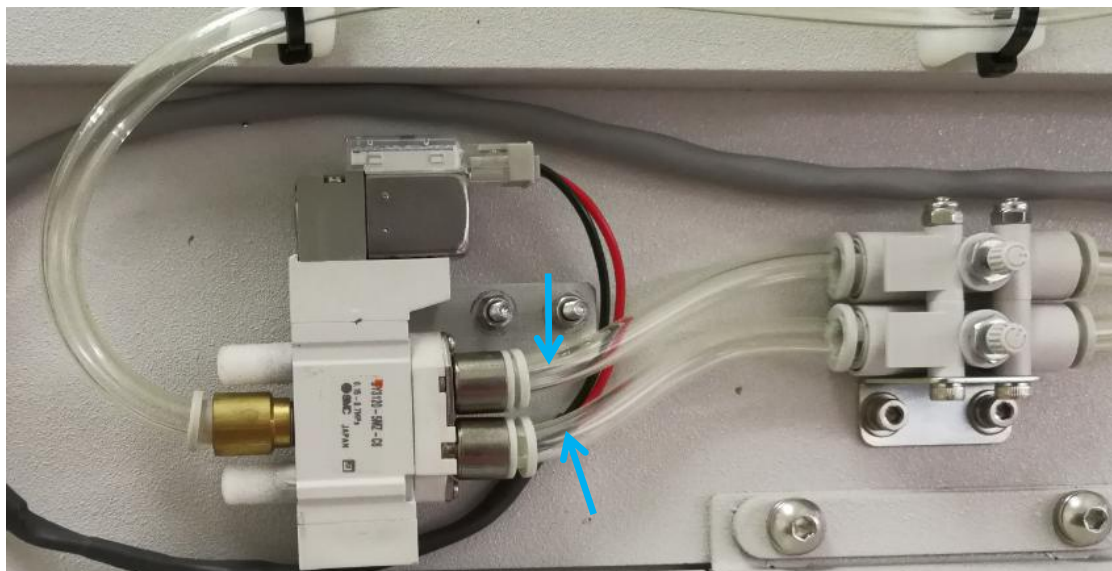

Figure 2
6. Remove 2 x Tubing from Outer Barrier Solenoid Valve. May refer to Figure 2